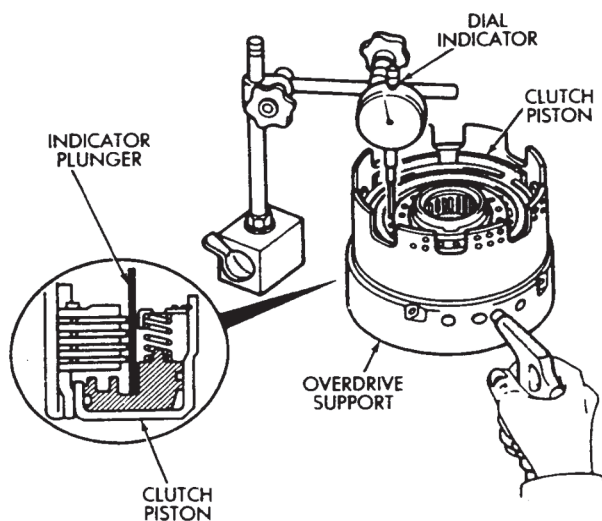

Fig. 5 Checking Direct Clutch Piston Stroke Length
(6) Apply 57-114 psi air pressure through feed hole in overdrive support and note piston stroke length (Fig. 5). Check stroke at least twice.
(7) Piston stroke length should be 1.37 mm to 1.60 mm (.0539 to .0642 in). If stroke length is incorrect, either the clutch pack retainer or clutch discs will have to be replaced.